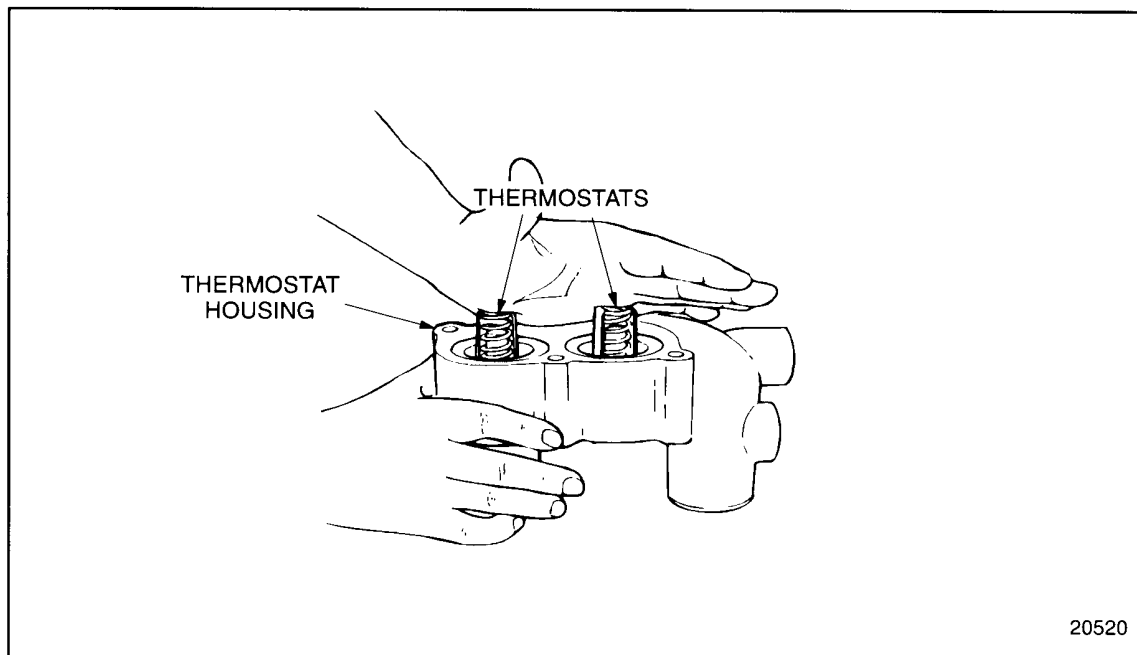

Figure 4-39 Seating Thermostats
8. Press down on the thermostats to seat them. See Figure 4-39.